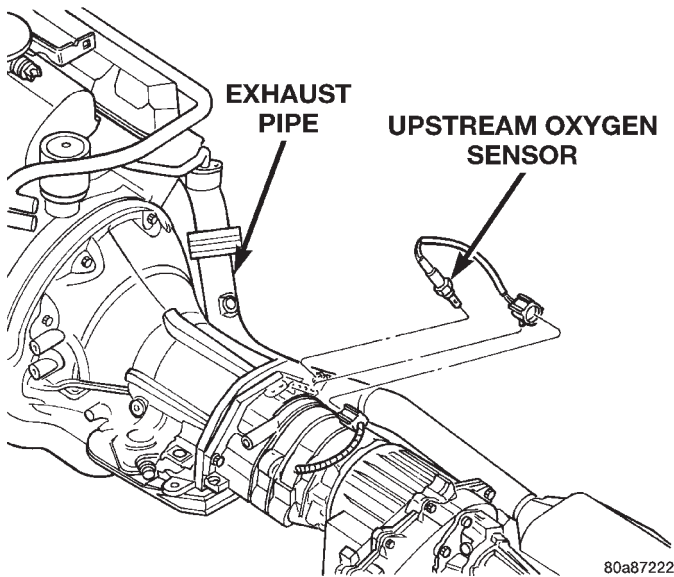
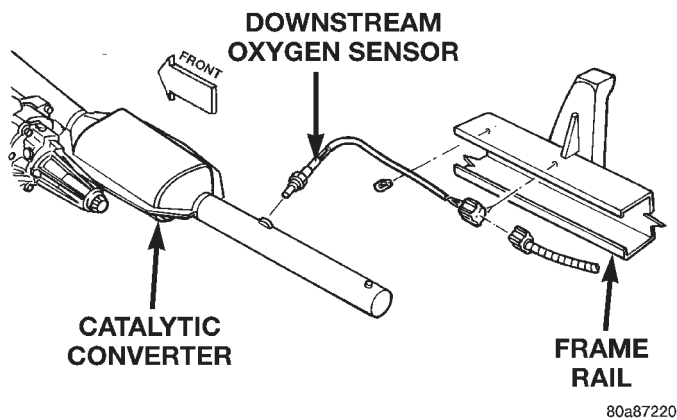

Fig. 23 Upstream Oxygen Sensor
Fig. 24 Downstream Oxygen Sensor
(20) Raise and support vehicle.
(21) Verify both upstream and downstream oxygen sensor wire connectors are firmly connected to sensors. Inspect sensors and connectors for damage (Fig. 23) or (Fig. 24).
(22) Inspect for pinched or leaking fuel tubes. Inspect for pinched, cracked or leaking fuel hoses.